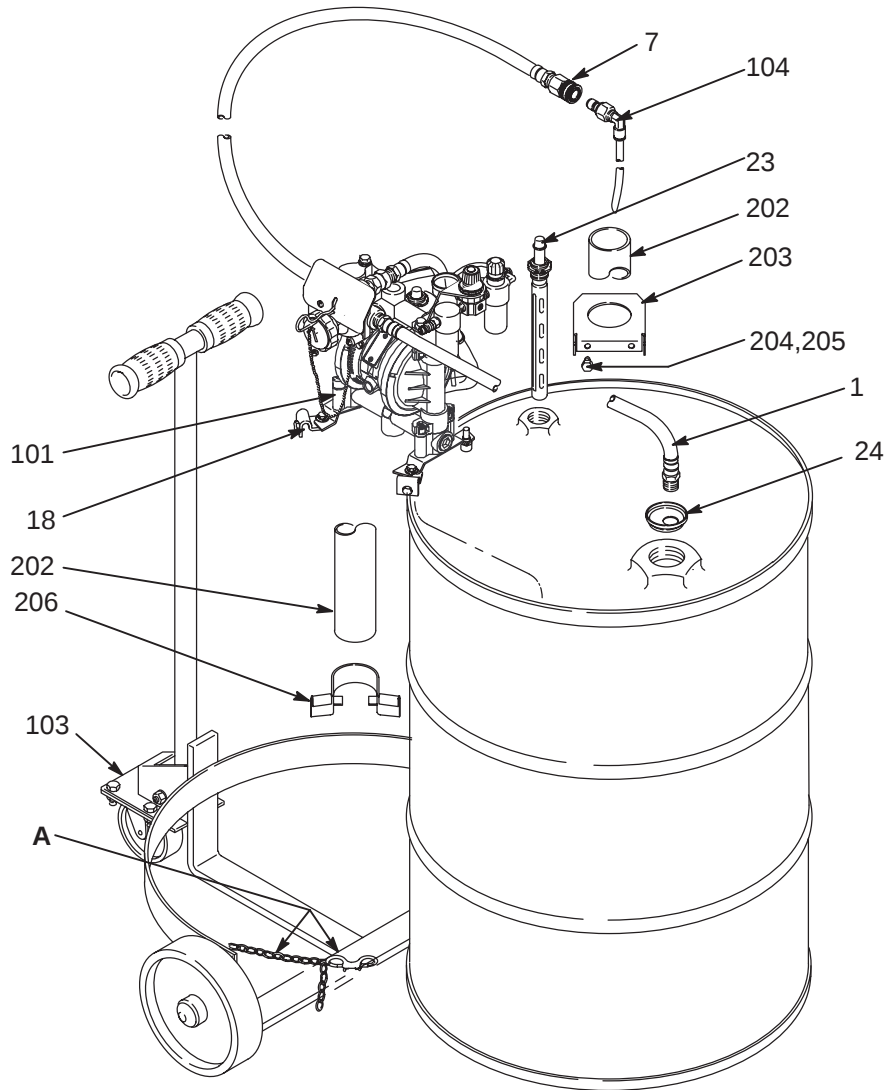
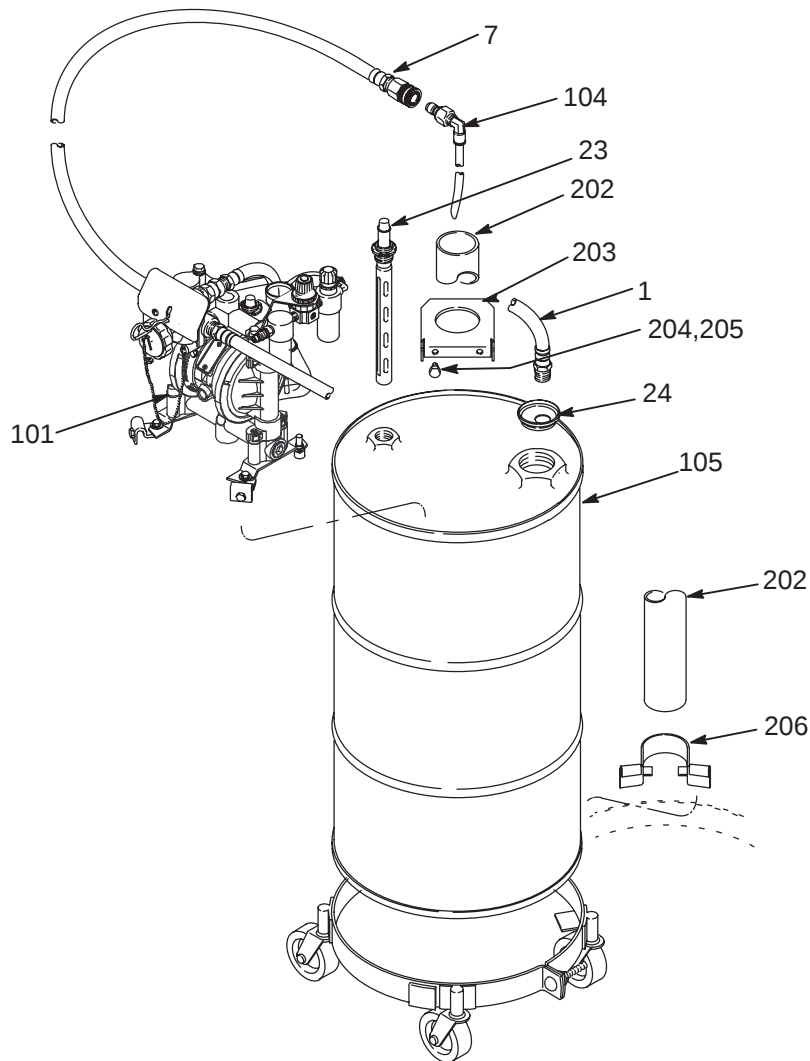

Fig 2
Fig 3
NOTE: Fig. 2 shows the 55 Gallon Unit, Model 224701. See Fig. 3 for the 16 Gallon Unit, 224700.
2. Put the drum on the dolly or truck. The truck has a chain and clip (A) to secure the drum.
3. Position the pump between the bung hole and vent hole of the drum as shown in Figs. 2 and 3. Loosen the top screw (14) of each pump clamp (18), and reposition the clamps as needed to fit the rim of the drum. Tighten the screws (17) to secure the pump to the rim of the drum.
4. Install the wand storage tube (supplied). Place the holder (206) on the lip of the dolly or truck. Place the tube (202) in the holder, and slide the bracket (203) over the tube. Align the bracket to the holder, and secure the bracket to the rim of the drum.
5. Remove the drum's vent hole cover, and install the vented fluid gauge (23).
6. Remove the drum's bung hole cover and install the plug (24). Put the 50" drain hose (1) into the drum through the bung hole.
7. Connect a wand (104) to the quick coupler (7). Store the wand in the storage tube (202) until needed.